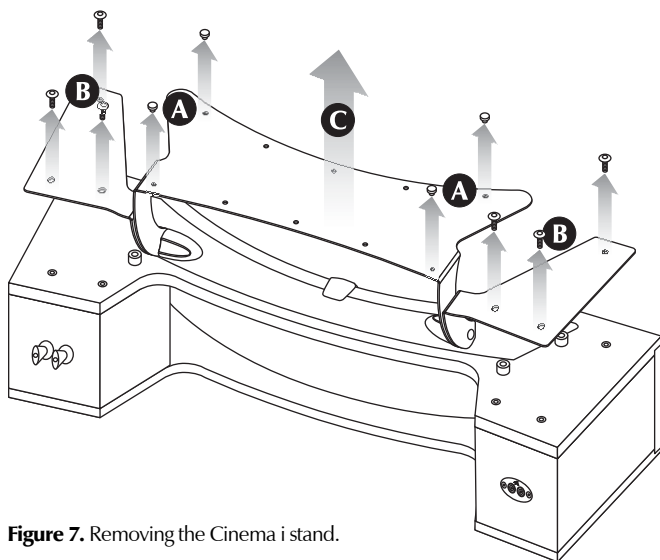

Figure 7. Removing the Cinema i stand.
- 2 Make sure that the 4 small rubber feet on the bottom of the Cinema i's metal stand are removed. If they are not, do so at this time by gently pulling and rocking them out of the holes (figure 7, step A).
- 3 Using a $\frac{5}{32}$ " Allen tool remove the 6 allen bolts that attach the stand, 3 each side (figure 7, step B).
- 4 Remove the stand (figure 7, step C).